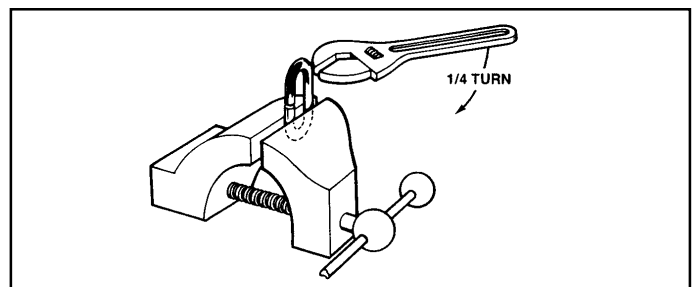

Figure 2-2.
b. Place wrench on top part of link, tighten jaws. Then twist link open wide enough to insert ends of chain to be joined. See Figure 2-2.